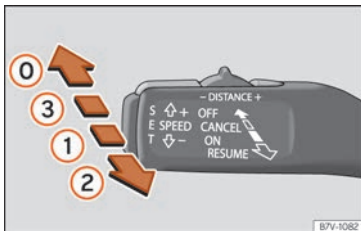
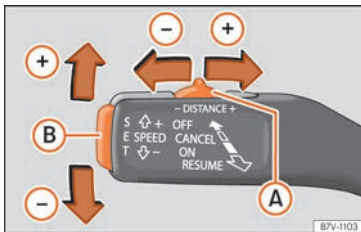
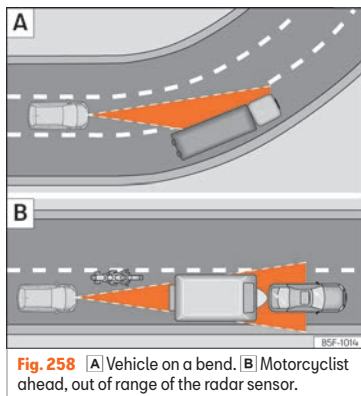

Fig. 256 On the left of the steering column: operating the ACC with the third lever.
Fig. 257 On the left of the steering column: operating the ACC with the third lever.
Fig. 258 [A] Vehicle on a bend. [B] Motorcyclist ahead, out of range of the radar sensor.
- To activate the ACC, move the third lever to position **ON** » **Fig. 256** (1). At this time, the ACC is not active and there is no programmed speed.
- Next, press button **SET** » **Fig. 257** (B) or move the lever to position **RESUME** » **Fig. 256** (2). At this moment the ACC is ac-
- If you wish to increase speed by intervals of 1 km/h (0.6 mph), move the lever to position **RESUME** » **Fig. 256** (2), or to decrease it press button **SET** » **Fig. 257** (B).
- To increase or reduce the distance, press button (A) to the right or left » **Fig. 257**.
• To disconnect the ACC move the lever to position **OFF** (fixed) »» Fig. 256 . An **ACC deactivated** message appears and the function is totally deactivated.
System acceleration can be interrupted at any time by pressing the brake or moving the third lever to position **CANCEL** »» Fig. 256 ③.
When entering or leaving some curves, the radar sensor may cease to sense the vehicle driving in front of it, or react to a vehicle in the adjacent lane »» Fig. 258 [A]. The vehicle may brake unnecessarily or stop reacting to the vehicle in front. In this case, the driver has to intervene by accelerating or interrupting braking by applying the brake or pushing the third lever to position **CANCEL** »» Fig. 256 ③.
The radar sensor can only detect narrow vehicles or vehicles that circulate out of alignment when they enter its range »» Fig. 258 [B]. In these cases, you should brake as necessary.